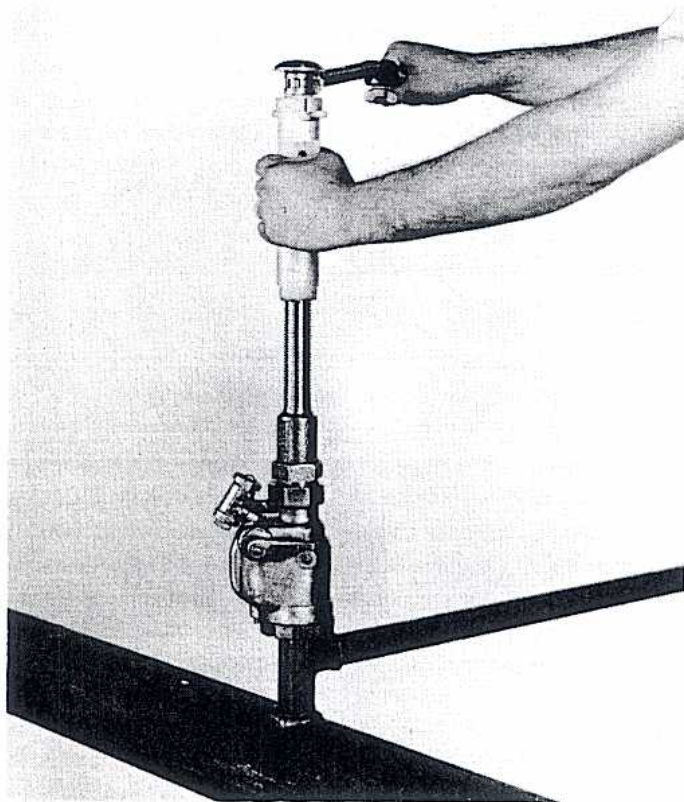

FIGURE 14
3. Drill the hole by operating the ratchet handle **clockwise** and turning the feed sleeve **clockwise** a little at a time. FIGURE 14. Use a light even feed at the start, then a heavier feed and finish with a light even feed.